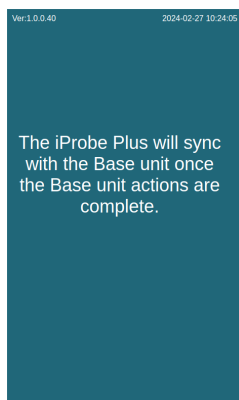

Figure 35. Waiting for 2i unit to return to Main menu
If the 2i Base unit is in the Reagent Selection, Alarm Setpoint, or Setup Screen, then the iProbe Plus will display the message shown in Figure 35, this is NORMAL. If the 2i Base unit is in the Main menu screen and the iProbe Plus is not displaying the Main screen, then they are out of sync. These issues can be resolved in one of two ways:
The Reagent and Alarm Set-point can only be changed from the 2i Base unit. The iProbe Plus will sync with the Base unit once completed. When the 2i Base unit is in the Reagent or Alarm Set-point screen, the iProbe Plus screen will display the following (Figure 35), until the 2i Base unit returns to the Main menu screen. The best practice is not to have the iProbe Plus plugged in to the 2i Base unit when changing the Reagent or Set-point.
- The date and time can be changed on the 2i Base unit through the setup screen. During this time, the screen shown in Figure 35 will be displayed on the iProbe Plus.
All the “Set-up” functions found on the 2i Base unit must be performed on the 2i Base unit. The iProbe Plus does not support this functionality. When the user is in the “Setup” screen on the 2i Base unit, the screen shown in Figure 35 will be displayed on the iProbe Plus until the user returns to the Main menu. The best practice is not to have the iProbe Plus plugged into the 2i Base unit when performing this function.